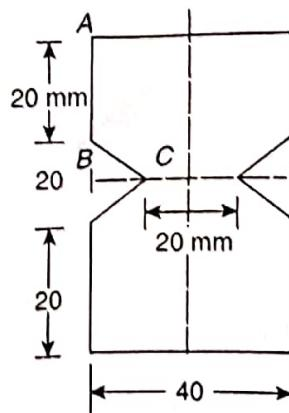

Figure 9.21
2. A rolled steel section $60 \text{ mm} \times 40 \text{ mm}$ is shown in Fig. 9.21. A transverse shear force of 50 kN is acting on this section. Determine shear stresses at points A, B and C.